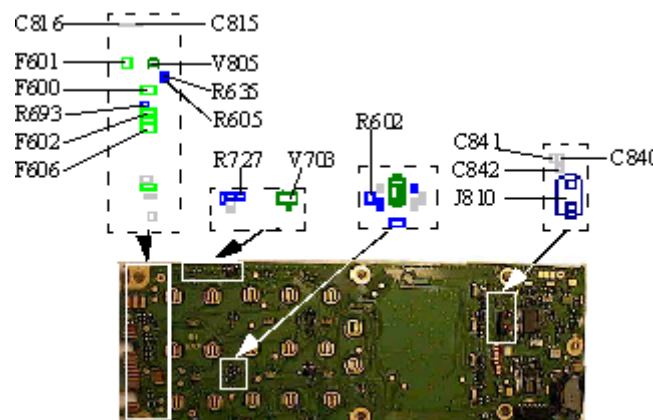
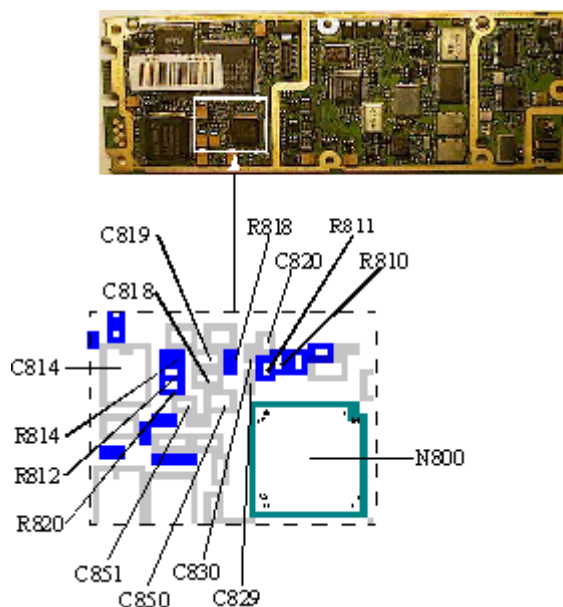
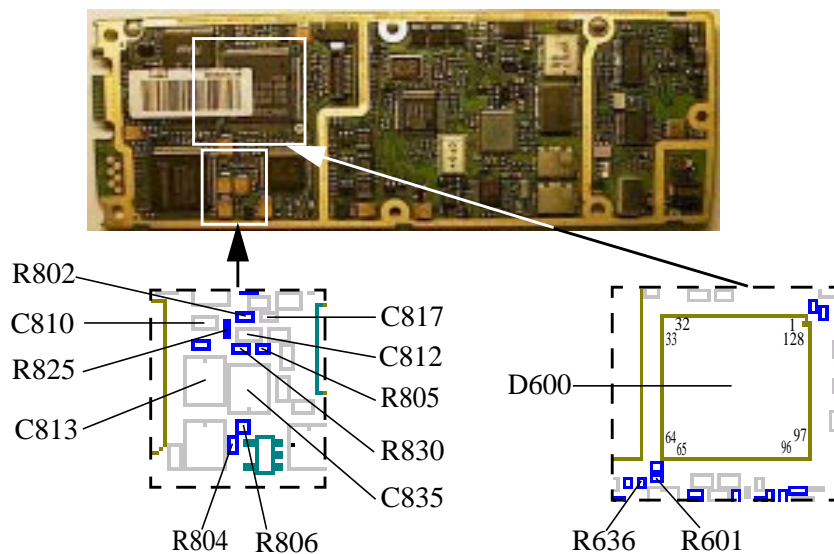
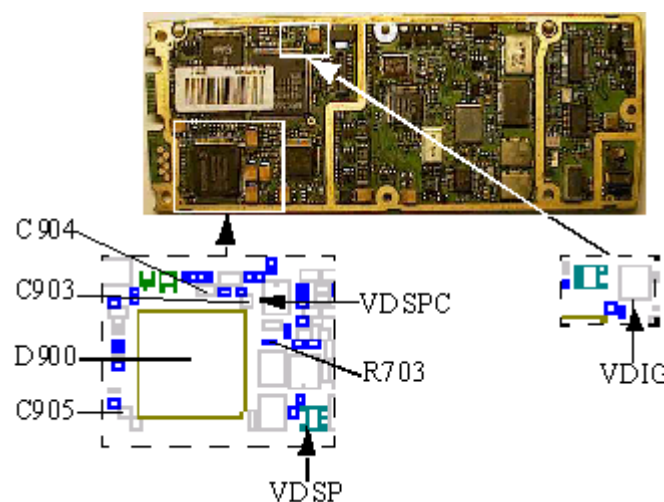

Fig. 4.1
Fig. 4.2
Fig. 4.4
Fig. 4.6
- If the fault remains, replace J810 (fig. 4.1, class A) and try again.
Check the solderings at N800 pins 24 and 26 (fig. 4.2).
- * If the resistance to ground is too low, replace C840 and C841 (both of them class A, fig. 4.1).
- * If the resistance from pin to pin is too low, replace C842 (class A, fig. 4.1).
If the fault remains, check the solderings at N800 pins 13-18 (fig. 4.2).
- If they're correct, measure the resistances of C850 (>100 kohms), C851 (>1 kohms), C829 (>100 kohms), C830 (>100 kohms), C818 (>100 kohms) and C819 (>100 kohms, all of class A and in fig. 4.2). Measure the resistance of C815 (fig. 4.1, >50 kohms).
* If it's less, replace C815 and C816 (both of class A and in fig. 4.1).
Measure the resistance of R818 (fig. 4.2, >10 kohms).
- If it's less, replace R818 and C820 (both of class A, fig. 4.2).
Measure the resistance of R810 (~0 ohms), R811 (~0 ohms), R812 (~1.5 kohms), R814 (~470 ohms) and R820 (1.5 kohms, all of class A and in fig. 4.2).
- If the resistance of R820 is too low even after it has been replaced, replace V805 (class A, fig. 4.1).
Measure the resistance of C814 (>100 kohms, class A, fig. 4.2).
Check the soldering at N800 pin 22 (fig. 4.2).
Measure the resistance of R804 (fig. 4.4, >50 kohms).
- If it's less, replace F601 (class A, fig. 4.1). If that doesn't help, replace R804 (class A, fig. 4.4).
Measure the resistances of R806 (~100 ohms, class A, fig. 4.4) and C813 (>100 kohms, class A, fig. 4.4).
Check the soldering at N800 pin 19 (fig. 4.2).
Measure the resistance of R825 (~3.3 kohms), R830 (~470 ohms), R802 (~3.9 kohms), R805 (15 kohms), C835 (>1 kohms), C817 (>100 kohms), C810 (>10 kohms) and C812 (>100 kohms, all of class A and in fig. 4.4).
Check the solderings at D600 pins 67 and 70 (fig. 4.4).
Measure the resistance of R635 (~22 kohms, fig. 4.1), R636 (~22 kohms, fig. 4.4), R601 (~1 kohms, fig. 4.4) and R605 (~1 kohms, fig. 4.1, all of class A).
If the fault remains, replace D600 (class B, fig. 4.4). If that doesn't help, send the phone to the next level.
- If it's less, replace F600 (class A, fig. 4.1).
- If it's less, replace F602 (class A, fig. 4.1).
Measure the resistance of R635 (~ 22 kohms, fig. 4.1), R636 (~ 22 kohms, fig. 4.4), R601 (~ 1 kohms, fig. 4.4) and R605 (~ 1 kohms, fig. 4.1, all of class A).
Check the VDIG and VDSP voltages (~ 3.2 V, fig. 4.6).
Check the VDSPC voltage (~ 2.5 V, fig. 4.6).
* If the resistance is too low, replace components in the following order: C903 (fig. 4.6), C904 (fig. 4.6), C905 (fig. 4.6), R727 (fig. 4.1) and D900 (fig. 4.6, all of class A). Check the resistance from VDSPC to ground after every component replaced.
* If the resistance is correct, replace V703 (class A, fig. 4.1).
If all the feed voltages are correct, check the solderings of D600 (fig. 4.4), D900 (fig. 4.6) and N800 (fig. 4.2).
- If they're correct, replace D900 (class A, fig. 4.6). If that doesn't help, replace D600 (class B, fig. 4.4).